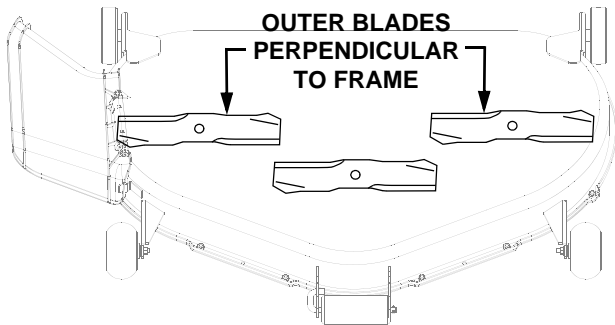

Figure 31
4. Carefully rotate the outer cutting blades so that they are positioned perpendicular to the tractor frame (Refer to Figure 31).